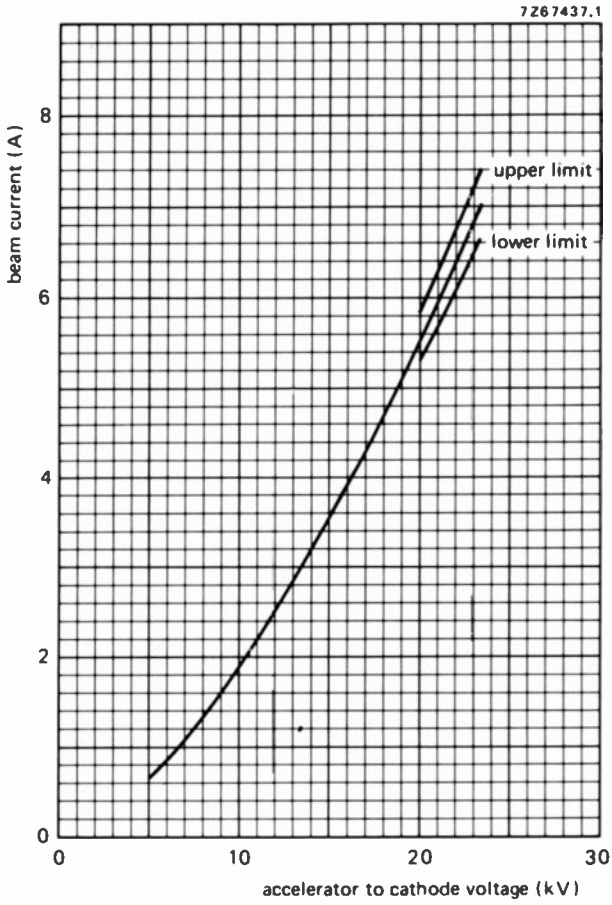

Fig. 3.
6. If the accelerator electrode is connected to the body (ground) via 10 kΩ resistor, the beam current is within ± 5% of the value given in the graph of Fig. 3.